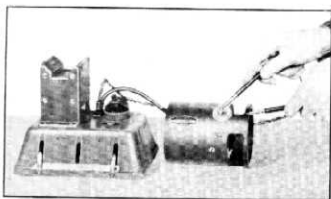

Fig. 28—Field Coil Test for Ground
1. Place test prod leads, one to the ground and the other to field coil terminal (fig. 28).